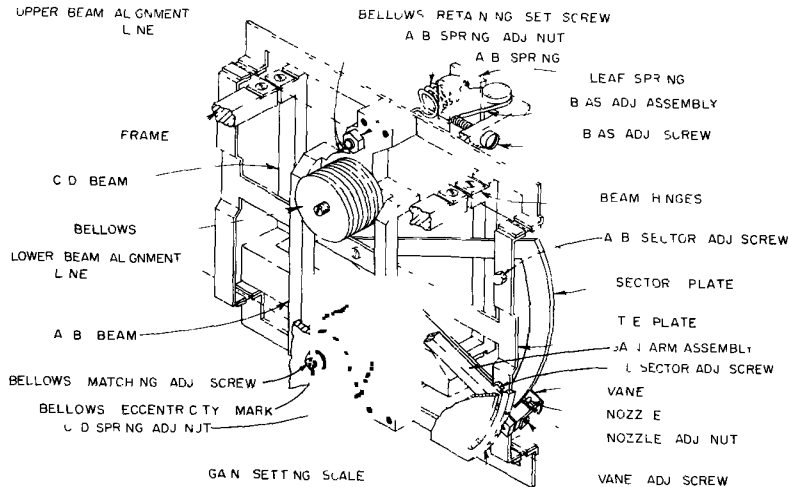

FIGURE 26 Controller Adjustments
7. Position gain arm at 1.0. Lock with knob mounted on base (item 70 Figure 32). Adjust A B and/or C-D sector screws (see Figure 26) to obtain an output equal to midrange pressure.
8. Beam hinges should be aligned with hinges on tie plate (refer to upper and lower beam alignment lines in Figure 26). If not, adjust beam position with A B and/or C-D sector bias screws until proper alignment is obtained. (This will necessitate readjusting A-B and/or C-D sector screws to regain midrange output pressure.)
11 Remove pressure from connection E3. Unlock set screws retaining C and D bellows (see Figure 26) and rotate bellows with bellows matching screws until eccentricity marks are located toward front of Controller
20. Unlock set screws retaining A and B bellows (see Figure 26) and rotate bellows until eccentricity marks are towards front of Controller.